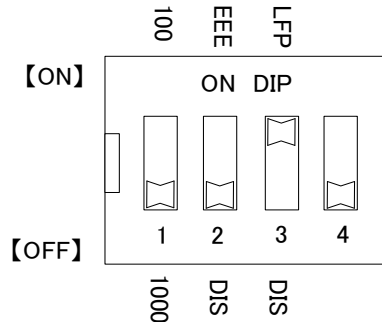

Figure 5.1 DIP switch setting
- 4) Please confirm that the DIP switch is set up as shown in figure 5.1.(Only pin 3 ON)